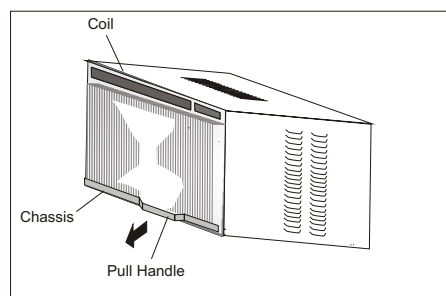

Fig. 2
C. Grasp the pull handle at the front of the slide-out chassis and carefully slide the air conditioner out of the cabinet. See (Fig. 2).